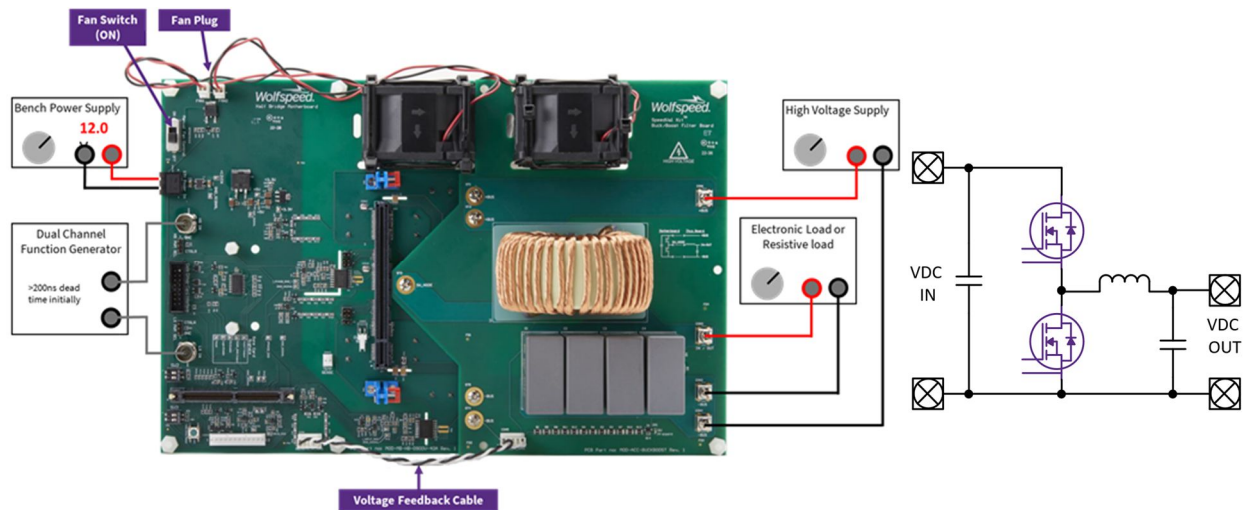

FIGURE 45: CONNECTION DIAGRAM FOR SYNCHRONOUS BUCK CONVERTER
- Connect buck/boost filter board to the motherboard using the 5 screws and terminal nuts on the motherboard (Figure 45).